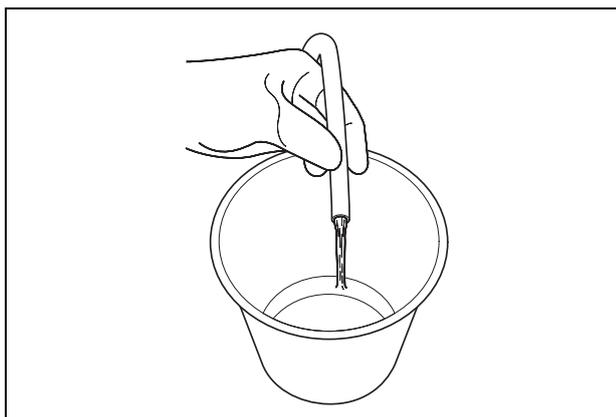

Figure 7.44
12. Make sure that water comes out from the end of the sampling tube and the sampling tube is filled with water (see Figure 7.44).